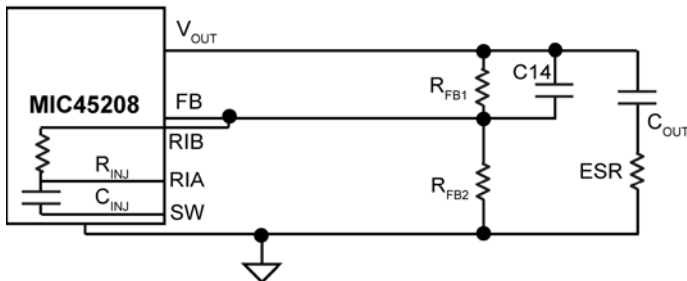

Figure 10. Internal Ripple Injection at FB via RIB Pin
- There is virtually no or inadequate ripple at the FB pin voltage due to the very-low ESR of the output capacitors; such is the case with ceramic output capacitor. In this case, the V_{FB} ripple waveform needs to be generated by injecting suitable signal. MIC45208 has provisions to enable an internal series RC injection network, R_{INJ} and C_{INJ} as shown in Figure 10 by connecting RIB to FB pin. This network injects a square-wave current waveform into FB pin, which by means of integration across the capacitor (C_{14}) generates an appropriate saw-tooth FB ripple waveform.